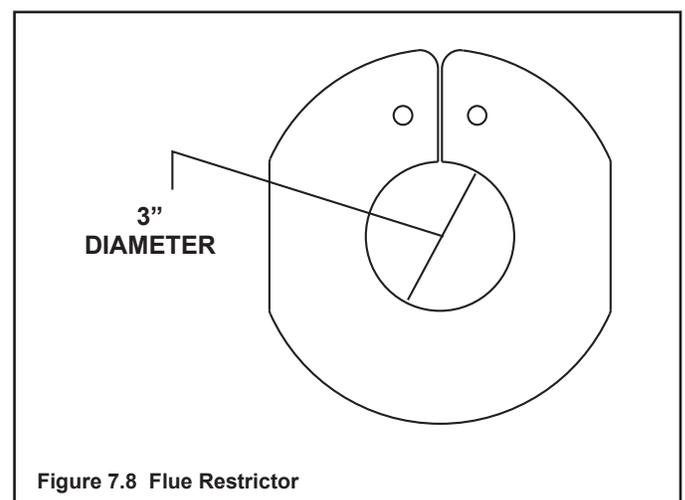

Figure 7.8 Flue Restrictor
2. The restrictor sits inside the 5" diameter collar in the bead area. Using a needle-nose pliers, insert the tips of the pliers into the two holes in the restrictor plate. Squeeze the pliers to flex the plate. The edges of the plate will need to overlap each other. Insert the plate into the 5" collar from inside the firebox. Release the pliers, the plate will expand into the bead (groove) inside the collar. Make sure the plate is fully in the groove so the restrictor cannot fall out (see Figure 7.8).